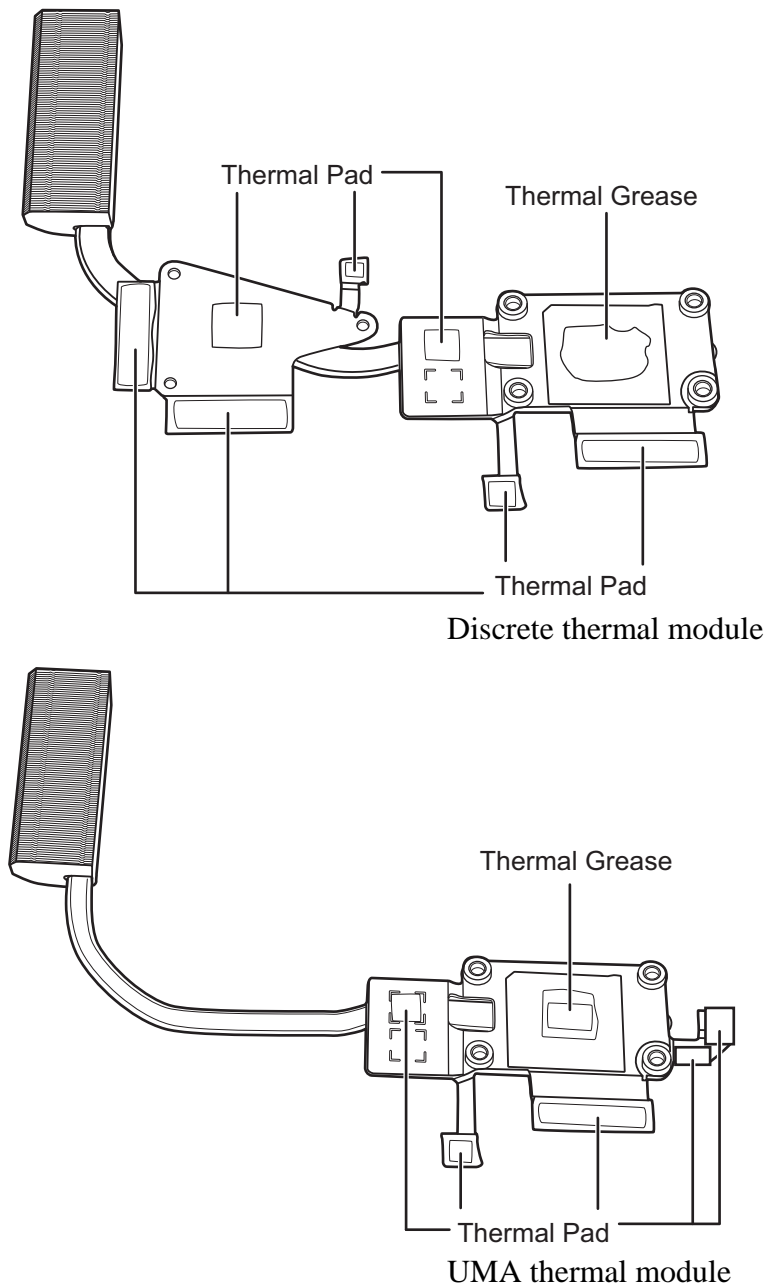

Figure 4.37 Reapply the Shinetsu 7762 grease on the thermal module
4. Reapply Shinetsu 7762 grease on the CPU thermal module as shown in Figure 4.37. If you use a new CPU thermal module, remove the release papers on the thermal pads first.